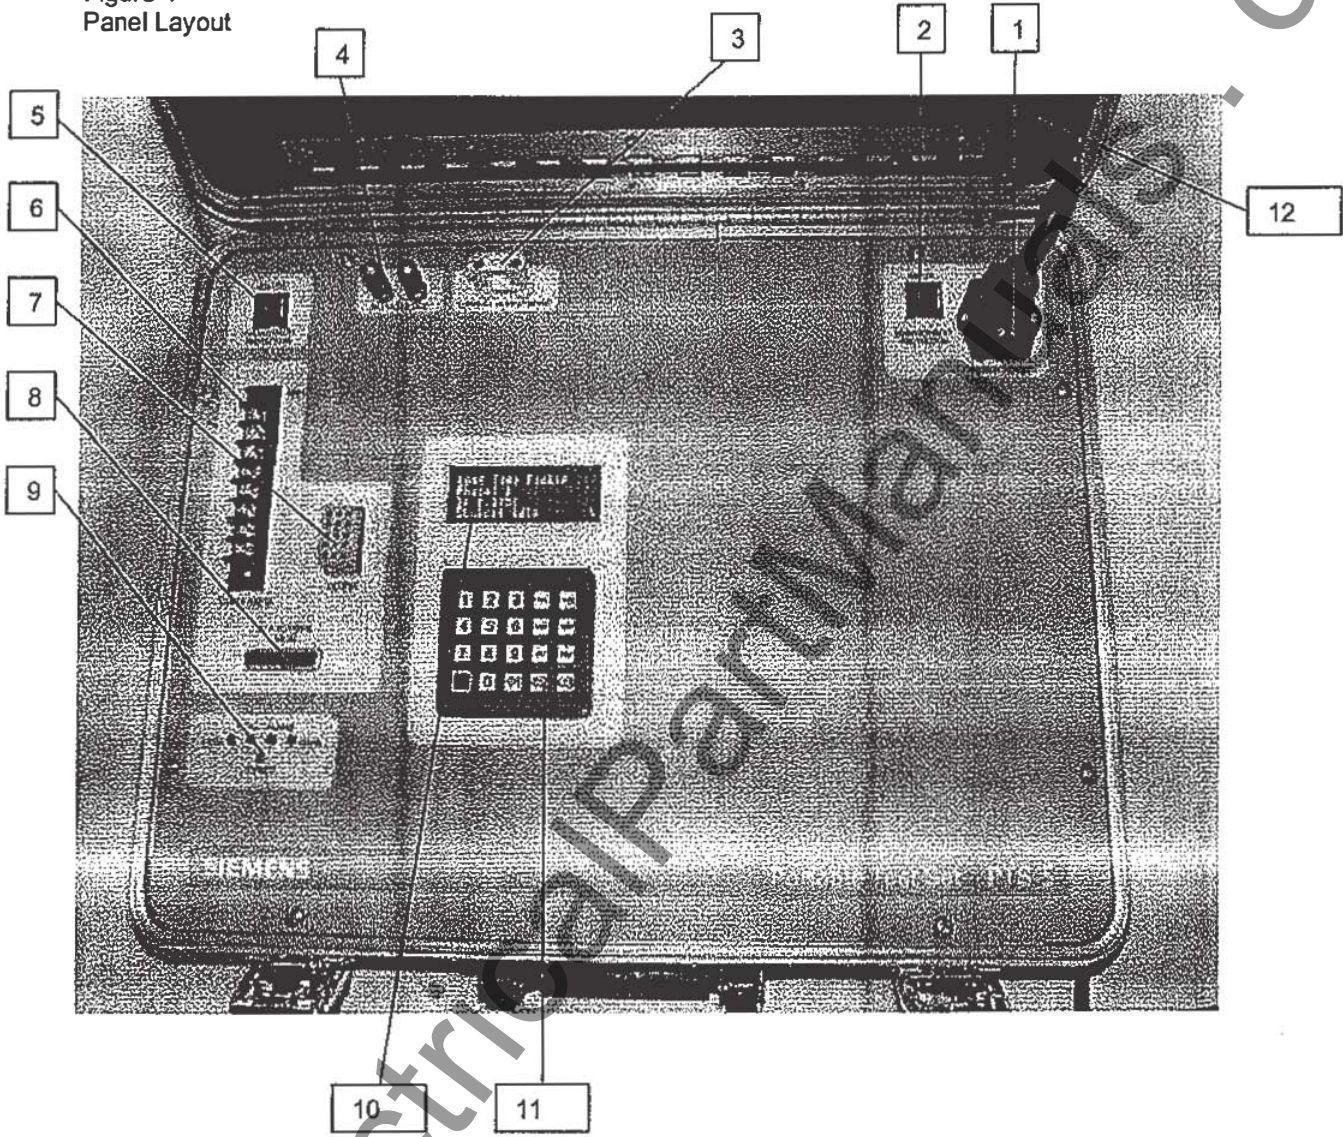

Figure 2
- 7) **OUTPUT (15-pin Molex connector):** Attach the test cable here. The test cable is used for tests where the STIII is attached to a circuit breaker. See Figure 2 which shows how to properly attach the test cable.
- ☐ If the STIII is completely removed from a breaker, then attach the fanning strip to the terminal block on the front panel per Figure 3. If the STIII is still attached to the breaker, connect the leads per Figure 2 to the test connector on the front of the breaker.